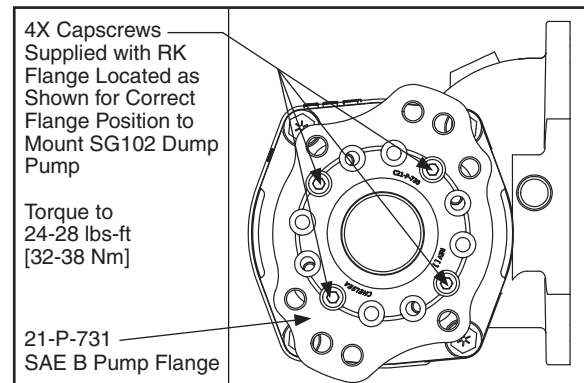

Fig. 8
2. For proper pump orientation with pump support brackets, please note the angle of RK output pump flange. **(Fig. 8).**